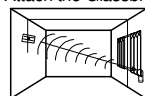

Fig. 3
For optimal performance the Wireless VITRON should be mounted as nearly opposite to the glass area to be protected, as shown in Fig 3. Attach the Glassbreak detector to the surface using the adhesive strips.
- **Opposite Wall –Mounted** (For optimal results, Wireless VITRON is centered opposite glass, see Fig. 3).